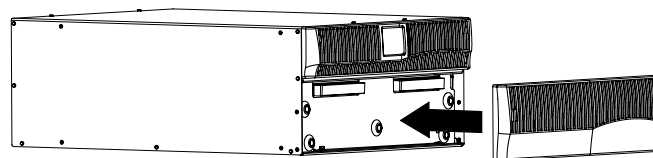

Figure 4. Installing the UPS Front Covers
4. Install the UPS front covers (provided in the accessory kit). See Figure 4.